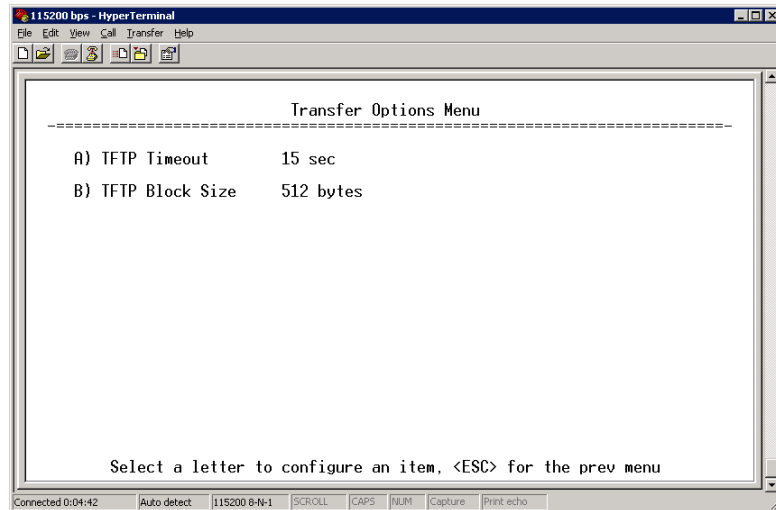

Figure 3-59. Transfer Options Menu
- ⌘ **Transfer Options** A menu for configuring the TFTP transfer. (See Figure 3-59 on Page 93.)